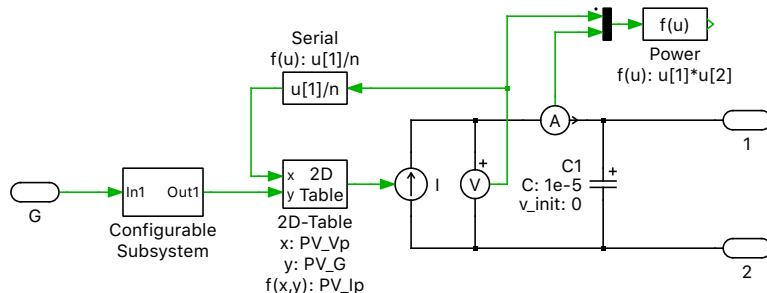

Figure 7: The Configurable Subsystem component allows changing the active configuration
- 4 Add a Subsystem component to the circuit model, and convert it to a Configurable Subsystem by right-clicking on the subsystem and choosing **Subsystem + Convert to configurable subsystem**. Then connect it as shown in Fig. 7. This modification will allow you to switch the signal source for the solar irradiance between the value given in the dialog mask or to use an external signal. Name the Signal Import block “G”. This import is used to bring the external irradiance signal into the masked subsystem.